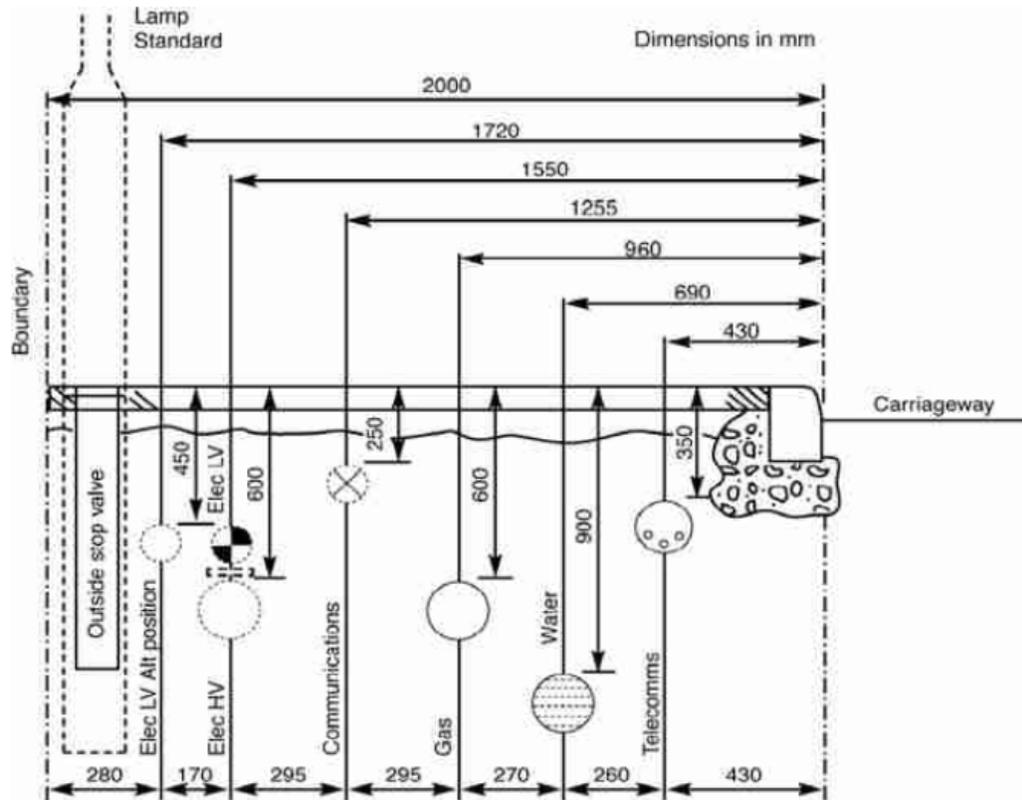

Figure 16 - Extract of NJUG guidelines for utility installation in the UK (NJUG, 2003)
- **Utility design** – Could we use offset alignments, dynamic offset profiles and connected alignments to provide a series of alignments that are dynamic to the highway corridor which we can then use to create pipe network objects to model our utilities in the standard layout shown in Figure 16? Want to see how I would complete this task? See it first at my class then see the full workflow on my Screencasts